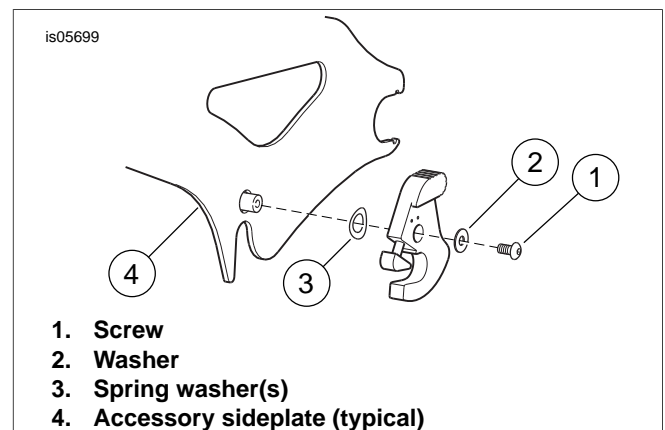

Figure 2. Remove Latch (Outer Right Installation Shown)
2. See Figure 2. Remove the screw (1) and washer (2) from the latch to be replaced by the new locking latch. Save the screw and washer for installation.